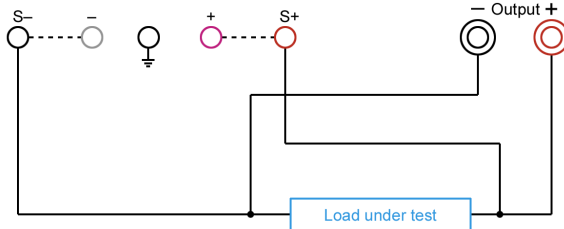

Fig. 3.
*Additional output terminals are designed for the voltage drop compensation on the connecting leads when there is a sufficient distance of the load from the power supply. Connection scheme with the use of the additional output terminals is shown below in Fig. 3.